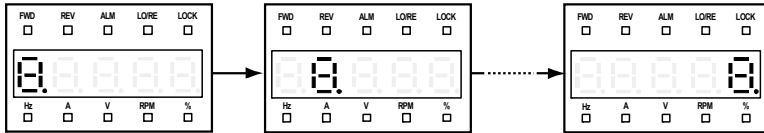

Figure 6-4 Starting panel self-testing
1. In stopping state, press **▶▶** key and **◀◀** key simultaneously for 2—3 seconds, the 5 LED will cyclically display “8.” from left to right in turn for three times which is as shown in Figure 6-4. Later, the indicator will be cyclically bit by bit clockwise lighting from the first upper left for three times.